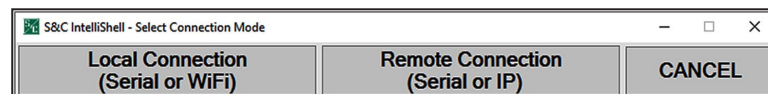

Figure 4. The S&C IntelliShell—Select Connection Mode dialog box.
STEP 3. Select the **Local Connection** option in the S&C IntelliShell—Select Connection Mode dialog box. See Figure 4.